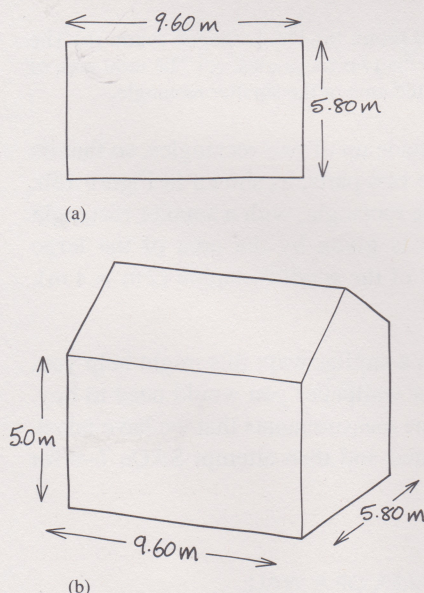

FIGURE 20 (a) Plan of a house. (b) Side view of a house.
Figure 20 gives the plan and side view of a rectangular house with some of its dimensions.
- (a) Find the area of a long wall of the house in Figure 20.
SAQ 8 Calculate the area of the ground floor of the house in Figure 20.
- (a) Calculate the number of rolls of wall paper needed to cover the long wall of the house in Figure 20 assuming the rolls are 0.50 m wide and 10.0 m long.